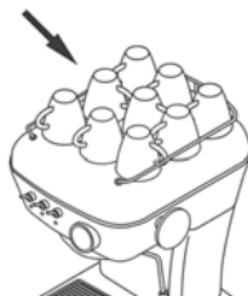

Figure 6
- Place the cups on the cup warmer **9**. Espresso is best at optimal temperature (40°C/105°F) (see figure 6).